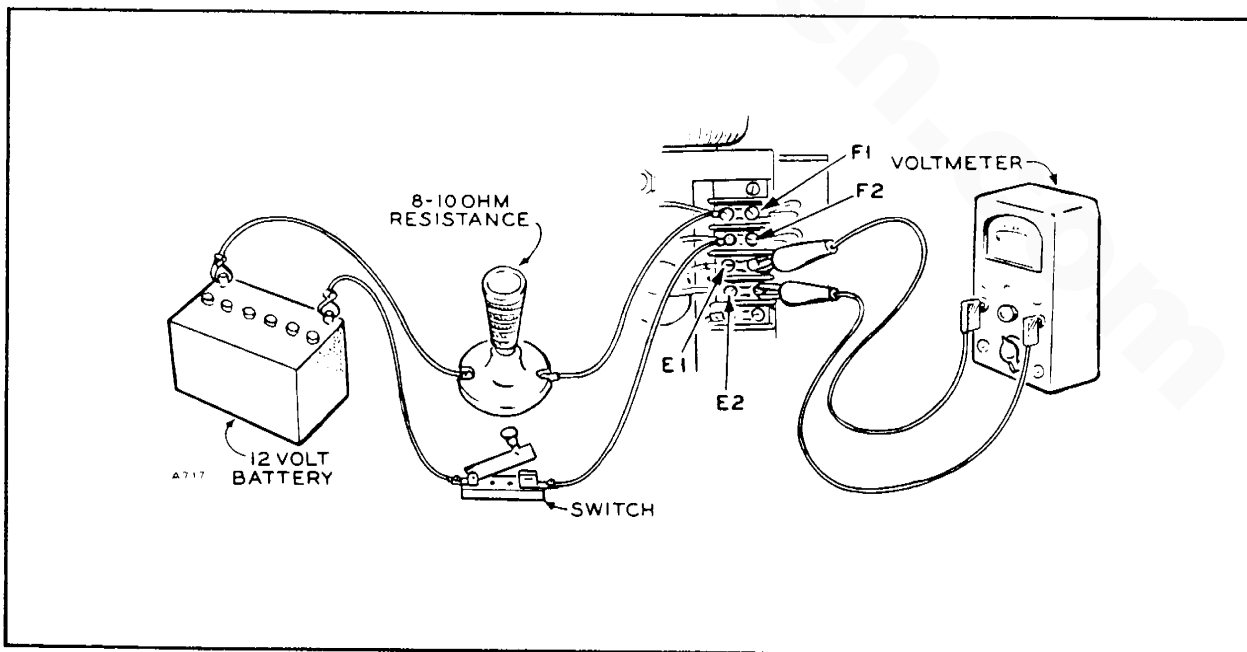

Fig. 4.I — Flashing the Field See Sect. 4.3.1.1.
2. Test for short or open circuit in rotor winding, by measuring resistance of winding. It should measure between 2.5 and 3 ohms (at 70°F). If an accurate ohmmeter isn't available, check the rotor for open circuit or grounding with a dc test lamp (Fig. 4.J).